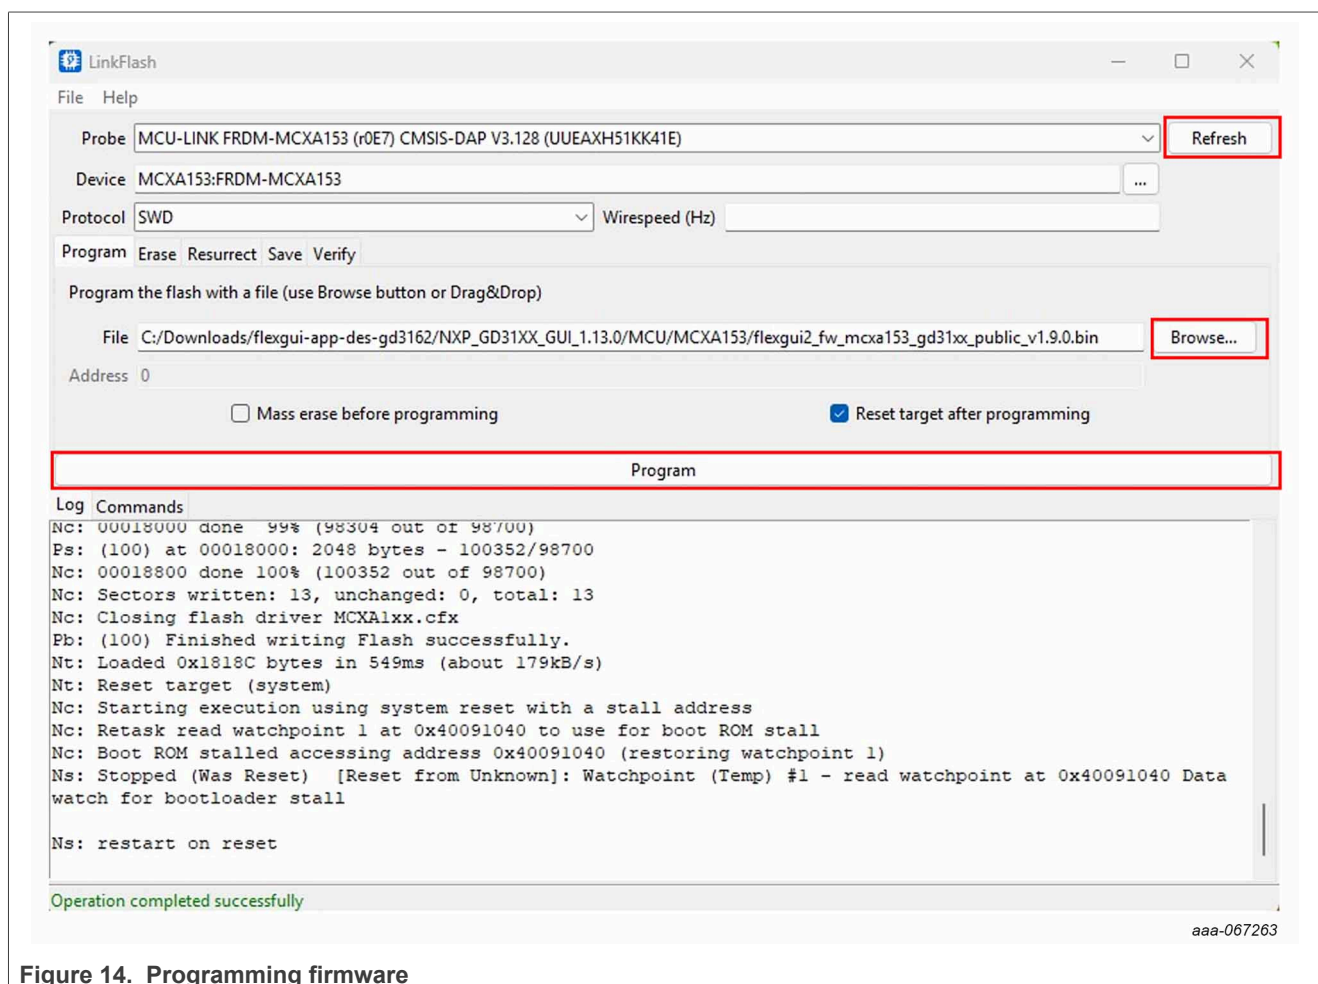

Figure 14. Programming firmware
4. Click **Refresh** on the LinkFlash GUI. MCU-LINK FRDM-MCXA153 will be displayed beside "Probe" and "Device". See Figure 14.
7. Click **Program** to begin the flash firmware process. Once finished, "Operation completed successfully" will appear at bottom of GUI. See Figure 14.